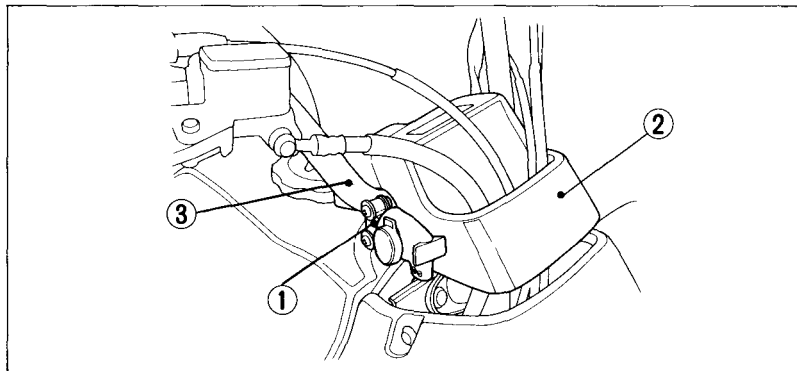

Fig. 2-24
The DC receptacle (Fig. 2-24) is attached to the right handlebar, near the handlebar cover (2). The receptacle provides 12 V DC power at a maximum of 180 watts (15 amps). If you exceed this limit, you may blow the fuse. (For information on fuses, and how to replace a fuse, see pages 111 – 112.)